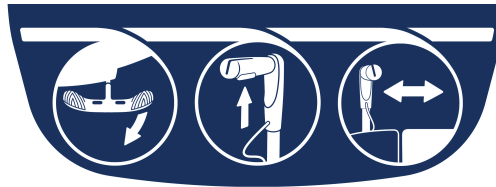

Figure 13 – Zoom operation
7. Grasp the drive handles at the two raised grip areas. Squeeze one or both of the motion release switches (A) under the handles to move the product (Figure 13).